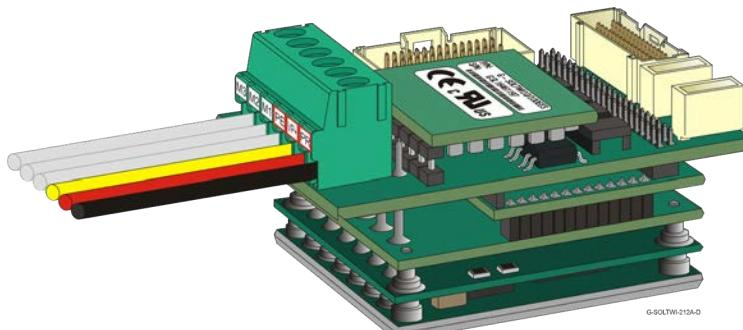

Figure 11: Connecting the Main Power Wires
3. Connect the VP+ and PR wires to the terminals on the servo-drive as shown in Figure 11.